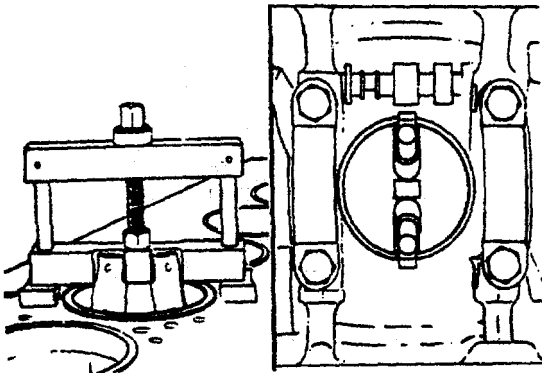

FIGURE 4-48. Extended Foot Type Puller.
- 2 When using liner puller shown in Figure 4-48 the feet on the extension arms must be extended below the bottom of the liner.